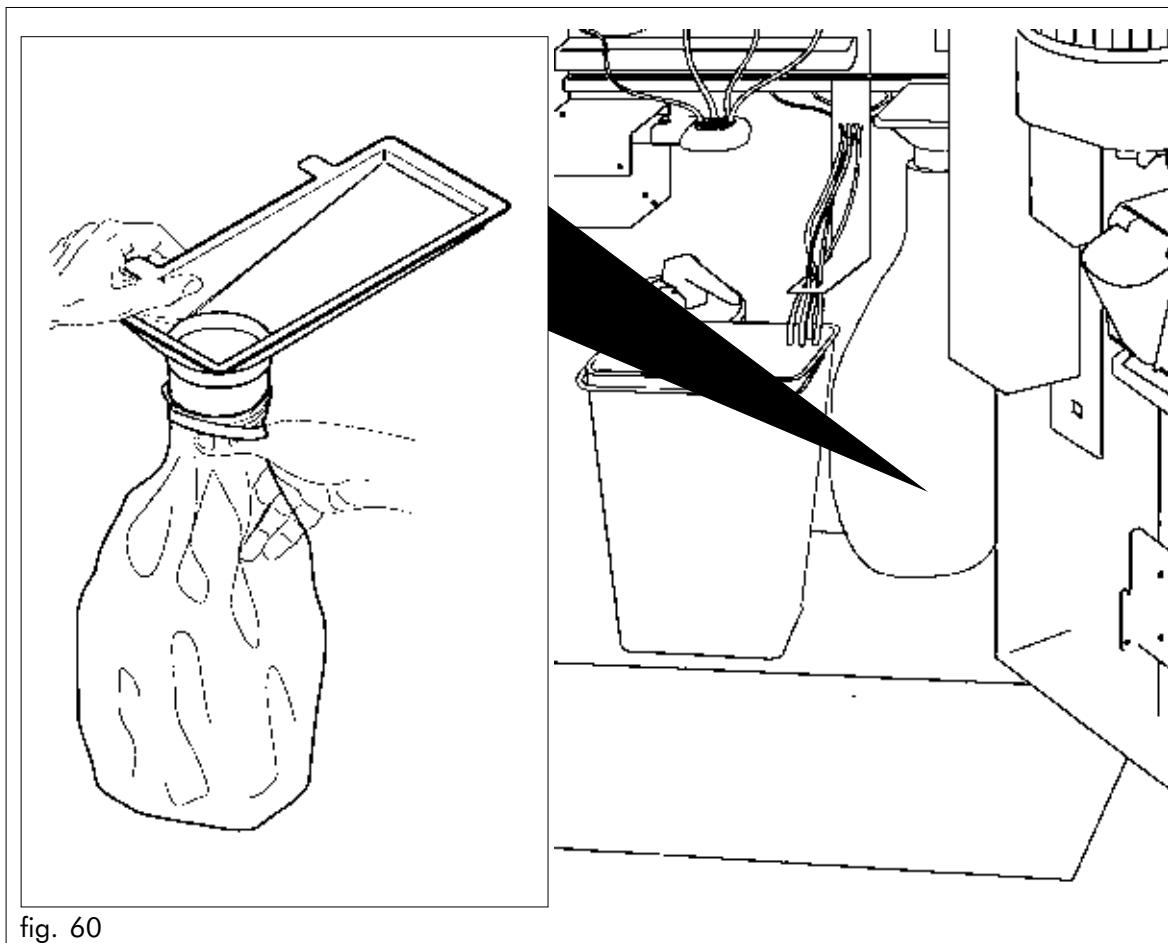

fig. 60
- Insert the plastic bag wrapping it around the chute and securing it with the spring (fig.60).